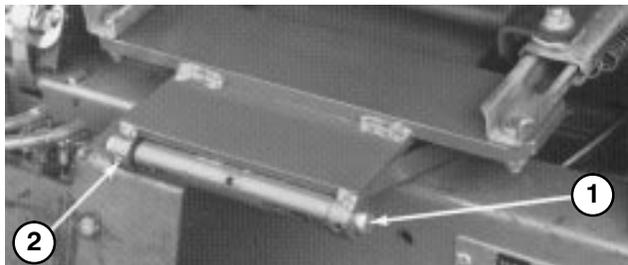

Figure 6
13. Mount seat and seat support to seat pivot bracket with pivot shaft and roll pin (Fig. 6).
15. Mount seat and seat support to seat pivot bracket with pivot shaft and roll pin (Fig. 6).